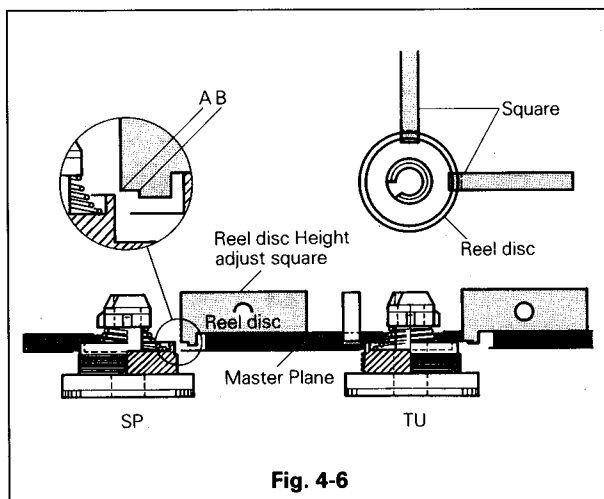

Fig. 4-6
- C. Examine the height of the reel disc with the "Height Adjust" square as illustrated in Fig. 4-6. The reel disc height should be between levels A & B of the square as illustrated.